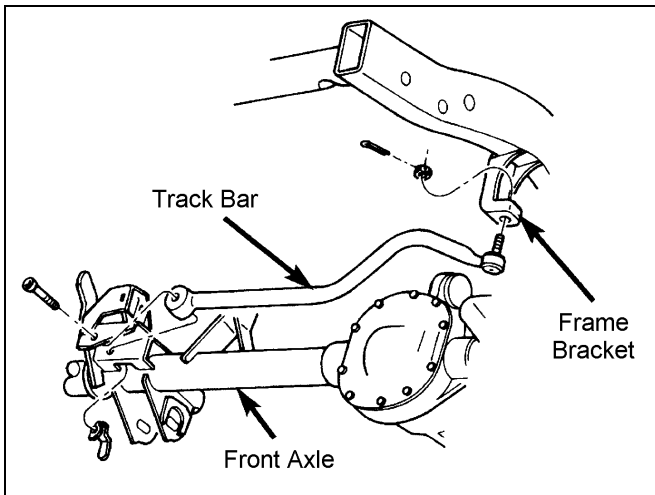

Figure 2
- 3) Remove the cotter pin and nut from the ball stud end of the track bar at the frame rail bracket. Separate the ball stud from the bracket with the recommended puller tool. See figure 2.